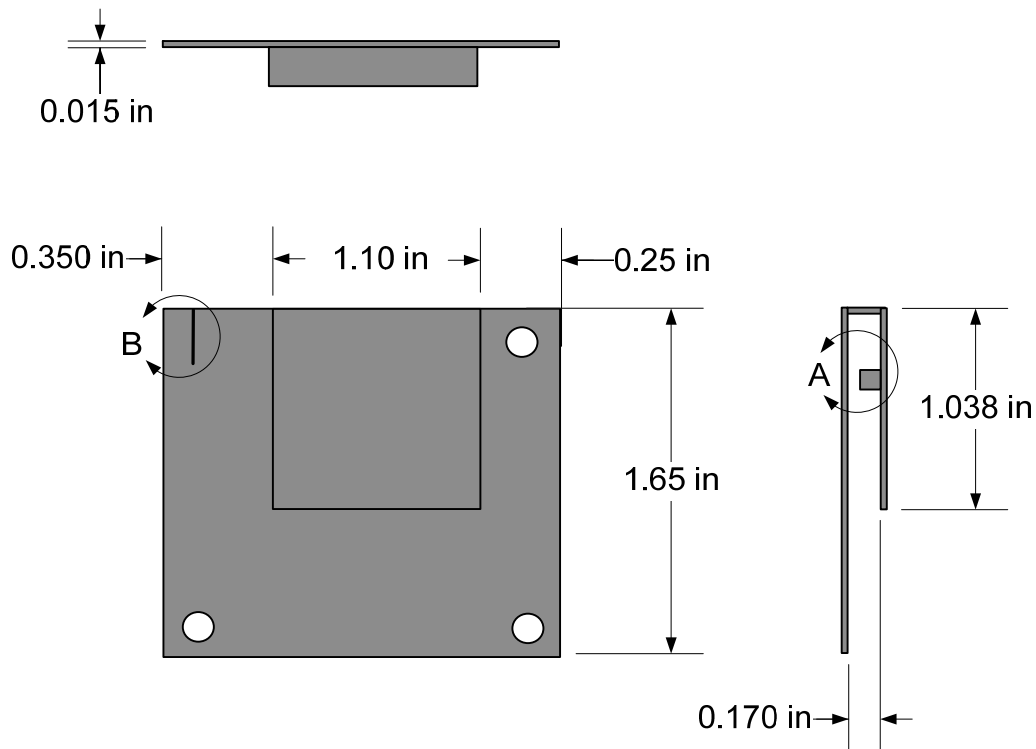

Figure 8: Dimensions
***Note:** All dimensions in Figures 8 – 10 are held within +/- 0.002 inch tolerance unless specifically stated in the figure.